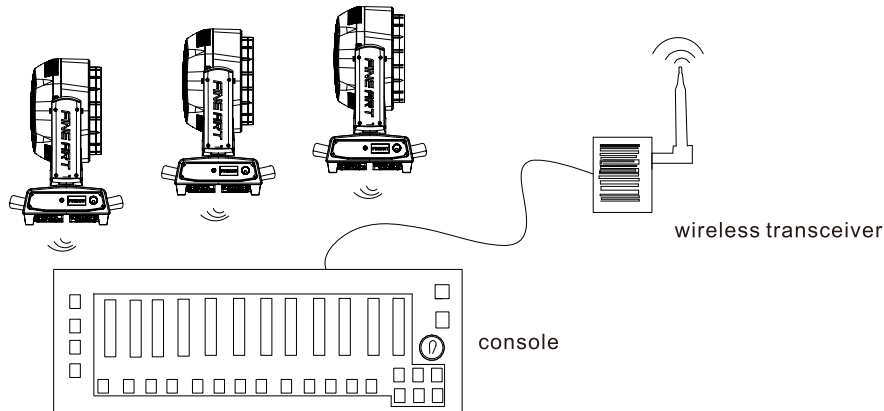

Fig.4.3-3
- (b)Press emitter button to search preset address within a fixture. When it's done, remotely control a fixture through a controller, Shown as Fig.4.3-3.